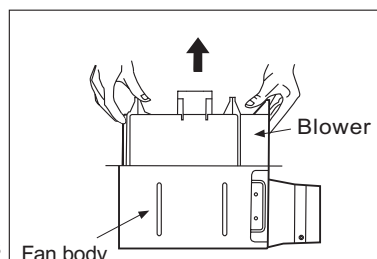

Fig.12-2
2. Remove blower section. (Fig.12-2)